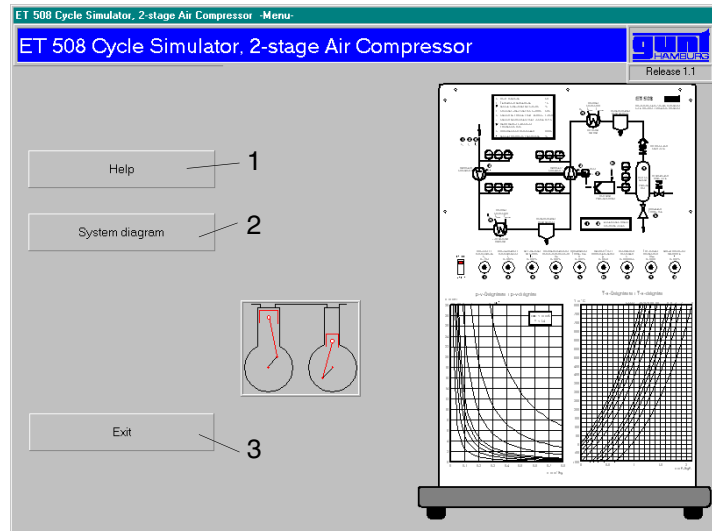

Fig. 2.3 Main menu
(Abb. 2.3) The online assistance (1) and the central system diagram (2) can be called up from this point, and the software can be shut down (3).